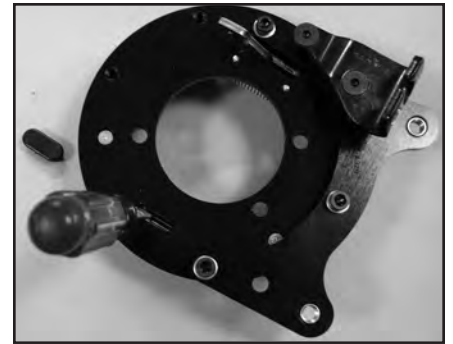

Figure 16
- Using a brake shoe adjustment tool (available from any auto parts store), or straight screwdriver, adjust the “star” wheel while spinning the rotor until a slight drag is felt, figure 16.